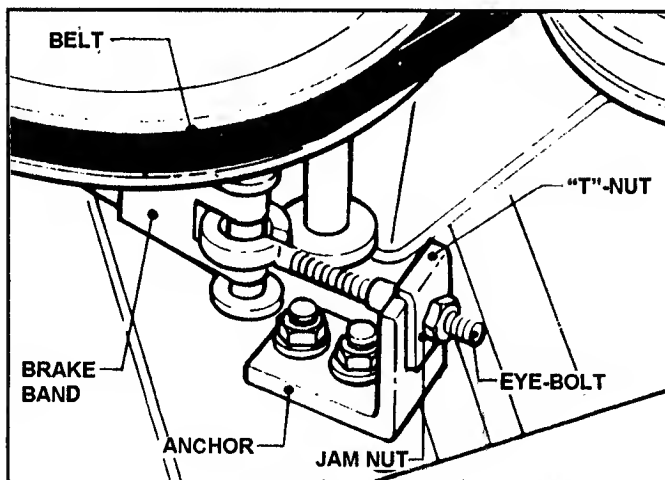

FIGURE 4.4
- (e) Turn the "T"-nut clockwise several complete turns. After adjustment, make certain the tab of the "T"-nut is on top of the anchor. See Figure 4.4.